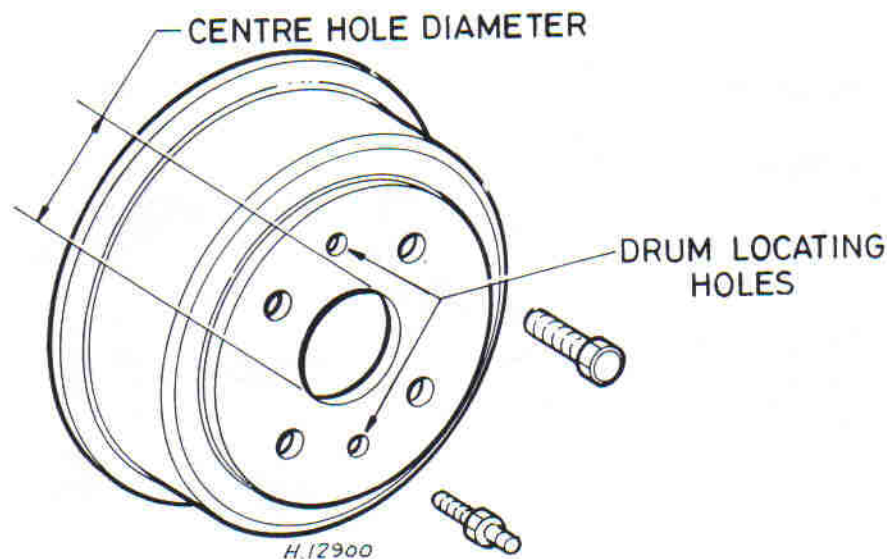

Fig. 8.5 Brake drum and hub diameter measurement (Sec 9)
**Note:** two sizes of hub and drum are in use. On early models the brake drum has unthreaded locating bolt holes and a centre hole diameter of 58.0 mm (2.28 in). Later versions have threaded locating bolt holes and a centre hole diameter of 59.0 mm (2.32 in). It is essential that the brake drum centre hole matches the outside diameter of the hub to which it is fitted, or brake judder may result (see Fig. 8.5).